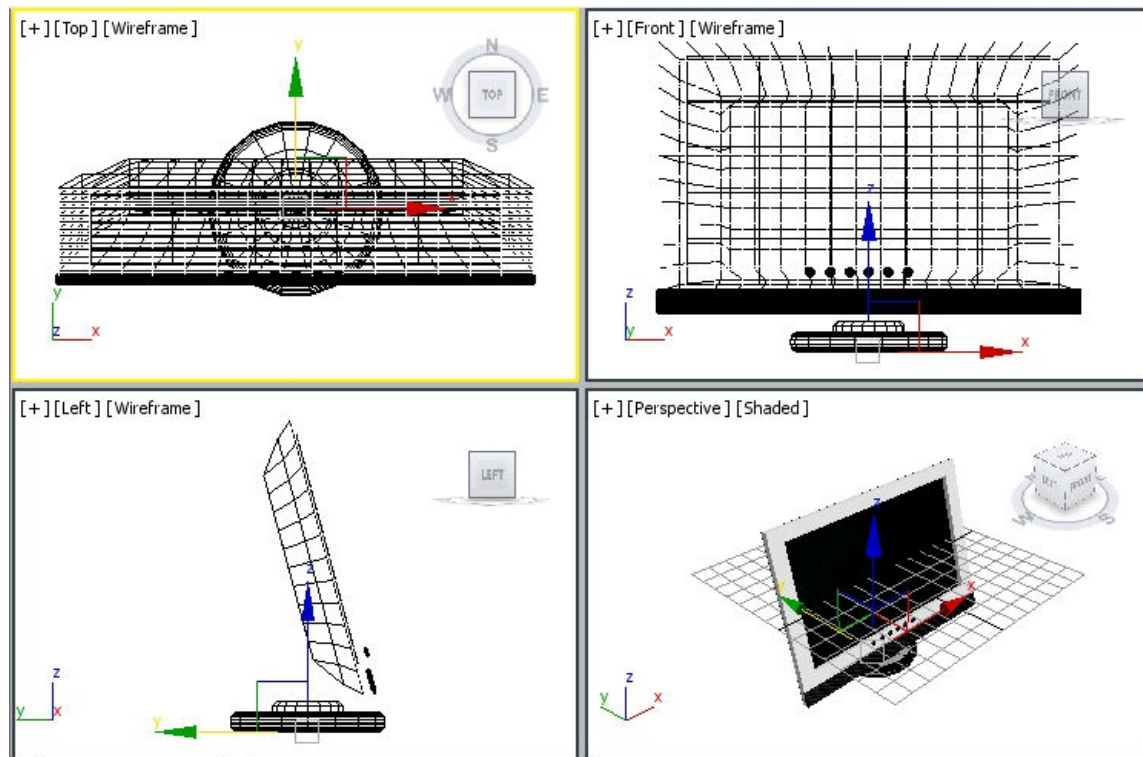

Figure 8-149 Alignment of support in viewports
15. Choose the **Zoom Extents All** tool and align *support* in the viewports, as shown in Figure 8-149.